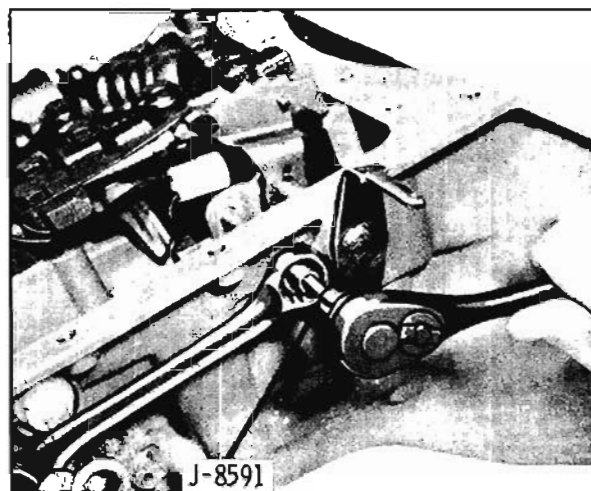

Fig. 6-270 Low Band Adjusting Screw
1. Release tension on low band adjusting screw retaining nut. Release tension on low band by turning adjusting screw in a counterclockwise direction. Use a 7/32" Allen Wrench. (Fig. 6-270)